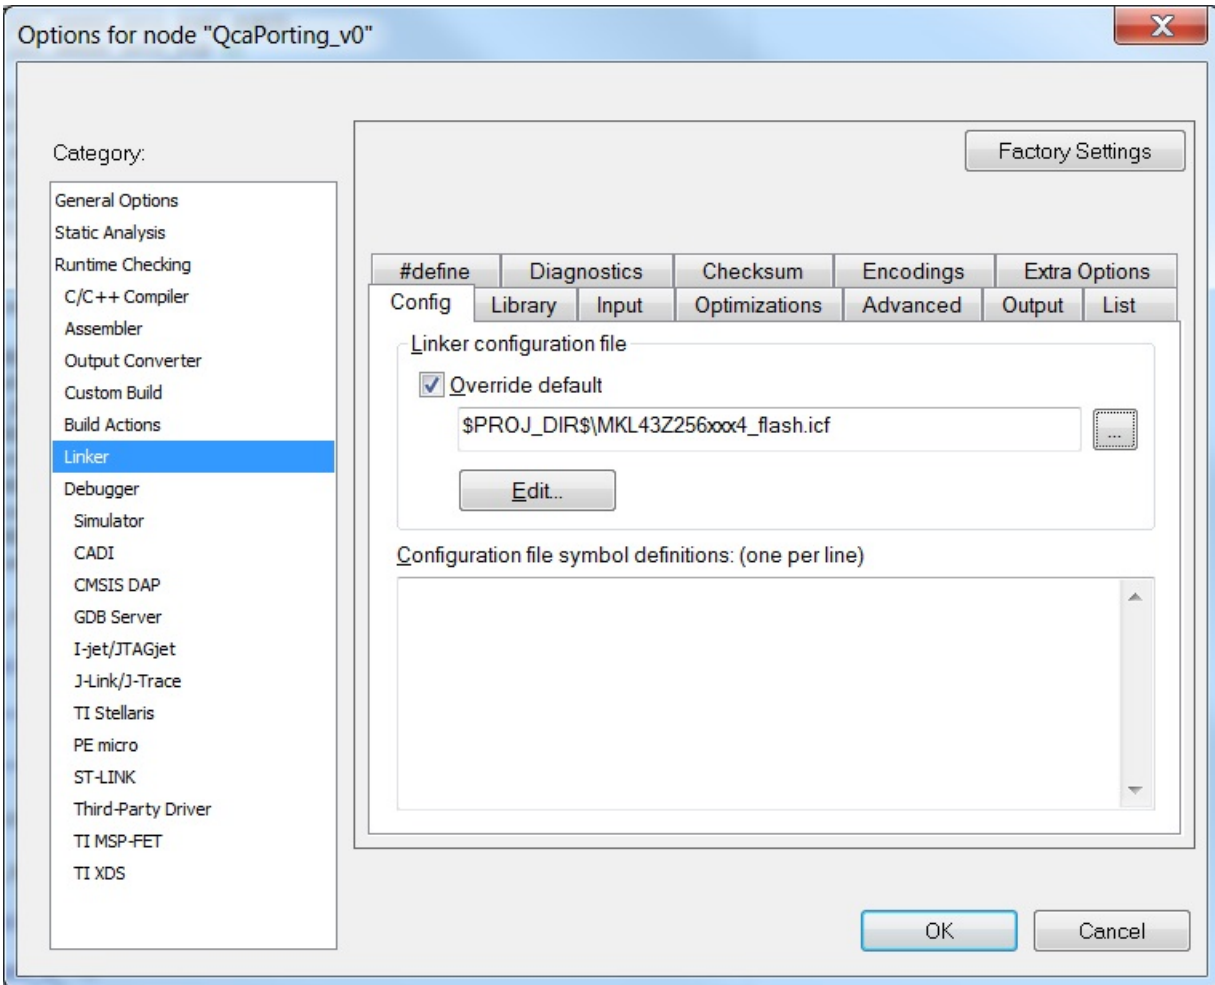

Figure 30. Linker configuration file
- In the 'Linker' category, click the 'Config' tab and check if the linker configuration file points to corresponding FRDM-KL43Z one, as shown in Figure 30.